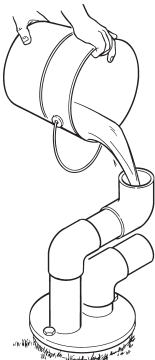

Figure 11
7. While holding the pipes **SECURELY**, fill them with water to make sure that the connections and check valve do not leak (See Figure 11). The pipes should hold water. If they leak, remove the pipes and find the leak. Remake the leaking joint with teflon tape or retighten the clamp. Repeat the installation and the fill-check until the pipes do not leak.